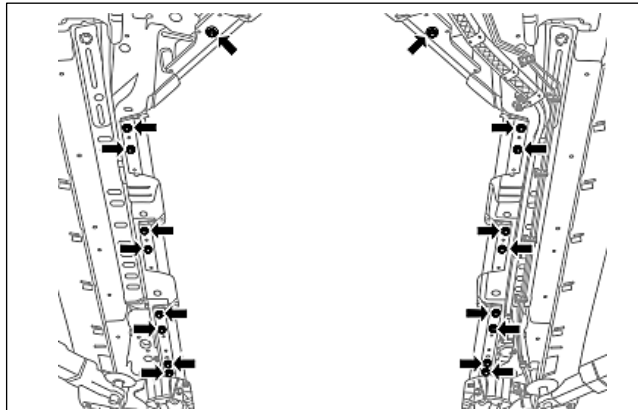

Fig 3.21: Remove the fixing bolts
15. Remove the fixing bolts at the bottom of the power battery as shown in Fig. 3.21.